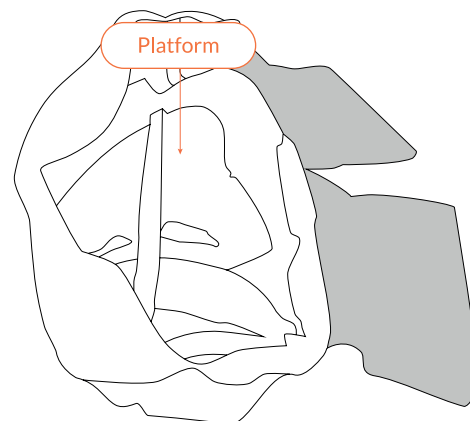
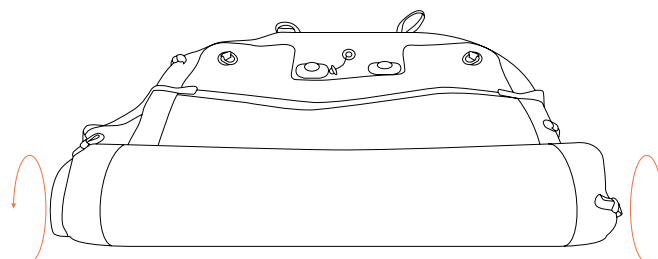

Fig 25 – Remove Platform from bag
Fig 26 – Unroll Platform
2. Once in position, remove the Platform from the bag (Fig 25) and unroll completely (Fig 26), locating the main inflation valve (page 16).